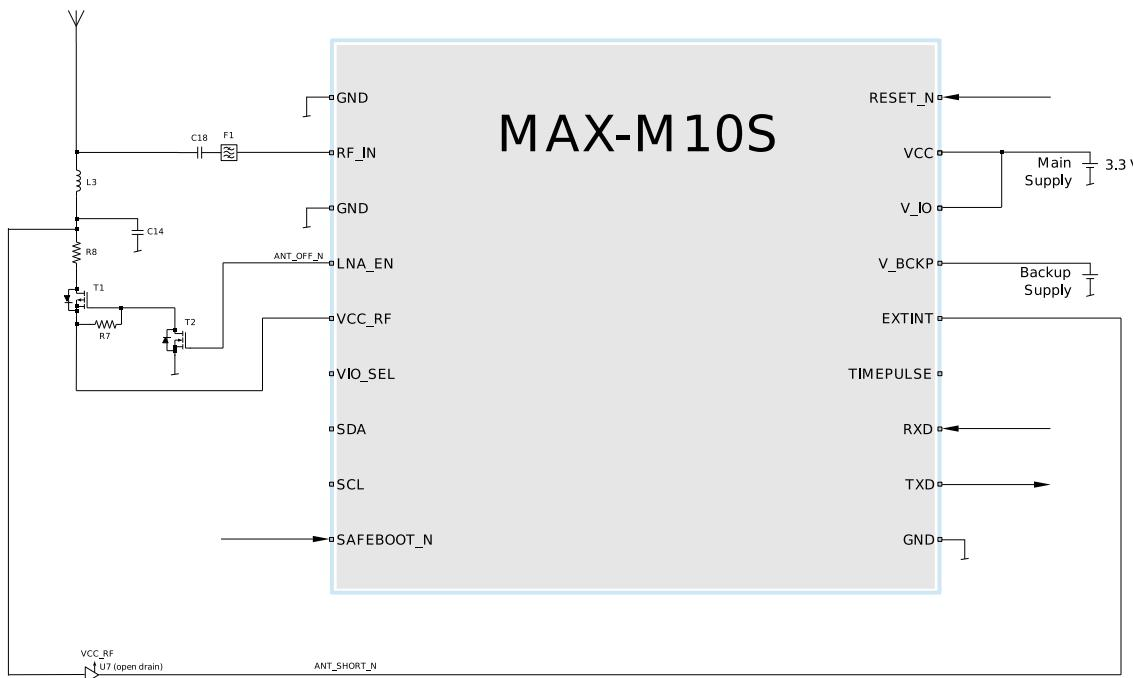
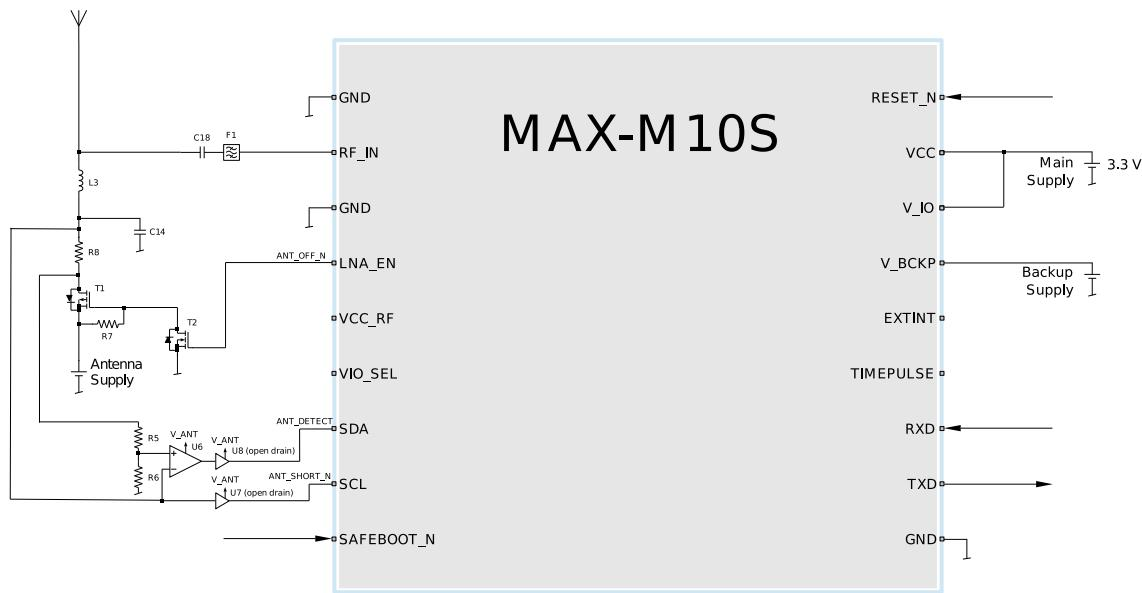

Figure 38: 2-pin antenna supervisor design
Figure 39: 3-pin antenna supervisor design
- A passive or active antenna can be used. An active antenna can be supplied either with the VCC_RF output from MAX-M10S, as shown in Figure 38, or from an external supply, as shown in Figure 39. Nevertheless, the internal LNA provides enough gain for passive antennas.
- MAX-M10S has an internal SAW filter and no additional RF front-end components are needed. However, in cellular applications, an external SAW filter can be added in front of RF_IN as shown in Figure 38, which allows an SAW-LNA-SAW RF front-end circuit for improved out-of-band immunity against RF interference from other sources.
Figure 38 and Figure 39 show a reference design for a 2-pin and 3-pin antenna supervisor design respectively. Here are some key features:
- An external SAW filter can be placed on the RF path as shown in Figure 38, which allows an SAW-LNA-SAW RF front-end circuit for improving out-of-band immunity against RF interference from other sources. This is especially useful when MAX-M10S is used in cellular applications.
- UART and I2C communication interfaces are available. I2C PIOs (SDA and SCL) can be used in a 3-pin antenna supervisor design as shown in Figure 39. In this case, the I2C interface needs to be disabled before assigning the new function to the PIOs.
The 2-pin antenna supervisor configuration required for the Figure 38 reference design is listed in Table 35.
The 3-pin antenna supervisor configuration required for the Figure 39 reference design is listed in Table 36.